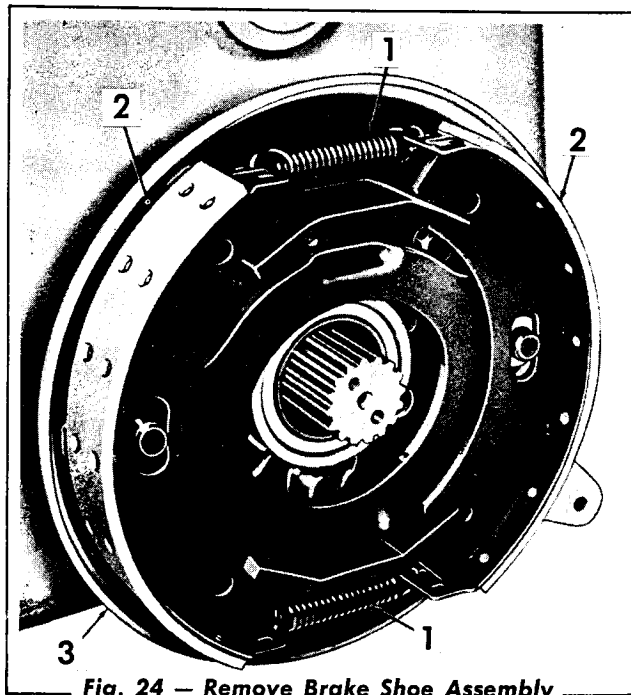

Fig. 24 - Remove Brake Shoe Assembly
7. Remove the brake return spring (Fig. 24) and the brake shoe assembly from the brake back plate.